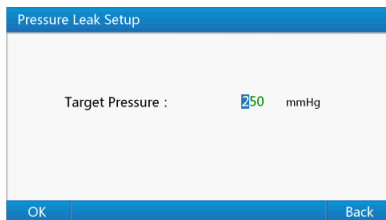

Figure 11 Target pressure setup interface
- 2) This interface displays current target pressure, you can set the target pressure by using right key to enter the setting interface shown as Figure 11. In this interface, use the number keys to input target pressure, and after entering a digit, the cursor will automatically move to next digit for input. After input the target pressure, press **"Enter Key"** to save. In this interface, pressing **"Return Key"** can get back